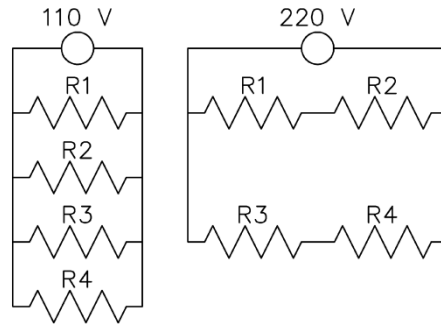

Figure 7-5 Heating elements wiring diagrams
2. Before disconnecting any wires, determine if the heating jacket is wired for 110 or 220 Volts. See Figure 7-5 below.
6. After the defective elements have been replaced, reconnect them according to the correct wiring diagram in Figure 7-5.